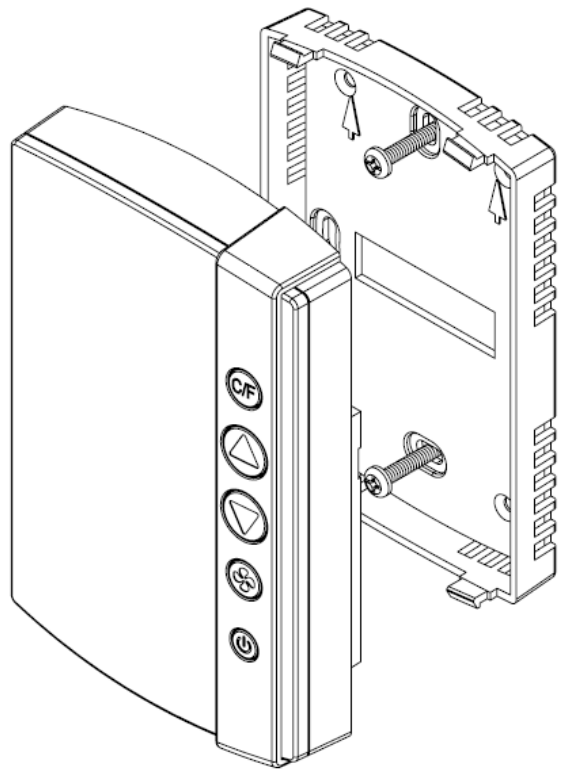

Figure 17
1. The mounting bracket is attached using two screws and the thermostat can then be snapped into place on the mounting bracket as shown in Figure 17.